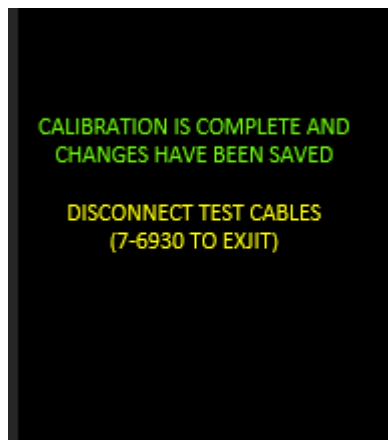

Figure 24. Calibration Complete
- 10.5 Changes are now saved, and calibration is complete (Figure 24). Disconnect the test cables and jumpers. Return to the HOME screen for testing or turn the test set OFF.